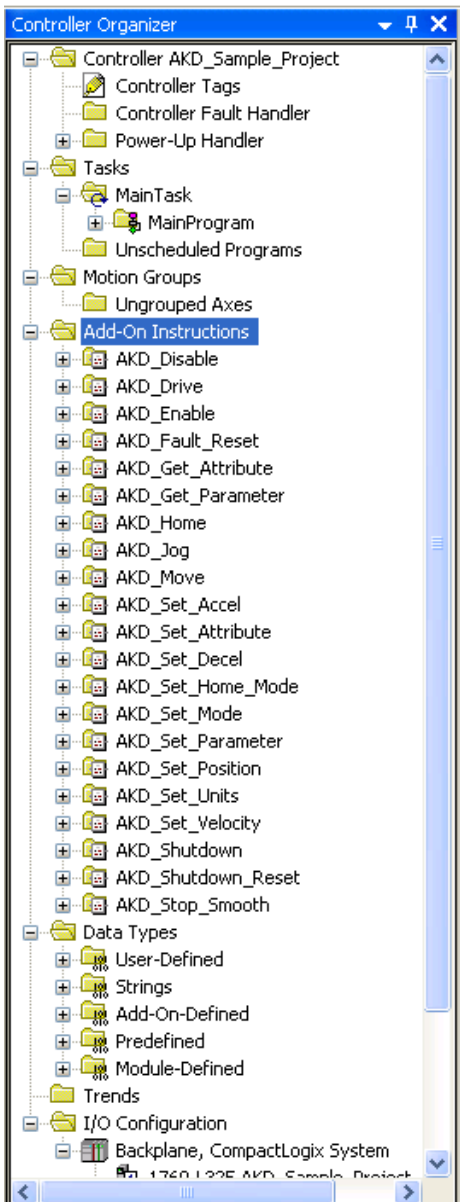

Figure 5-11: AOI's Successfully Imported
8. The instructions should now show up under the “Add-On Instructions” folder (Figure 5-11: AOI's Successfully Imported)